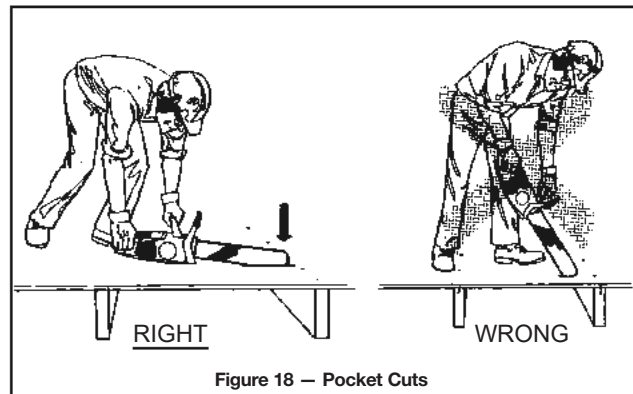

Figure 18 – Pocket Cuts
- Take extra care when making pocket cuts (Figure 18). Start the cut with the underside of the chain tip, then work the saw down and back to avoid contact with the kickback zone. Consider an alternative tool such as a sabre saw.